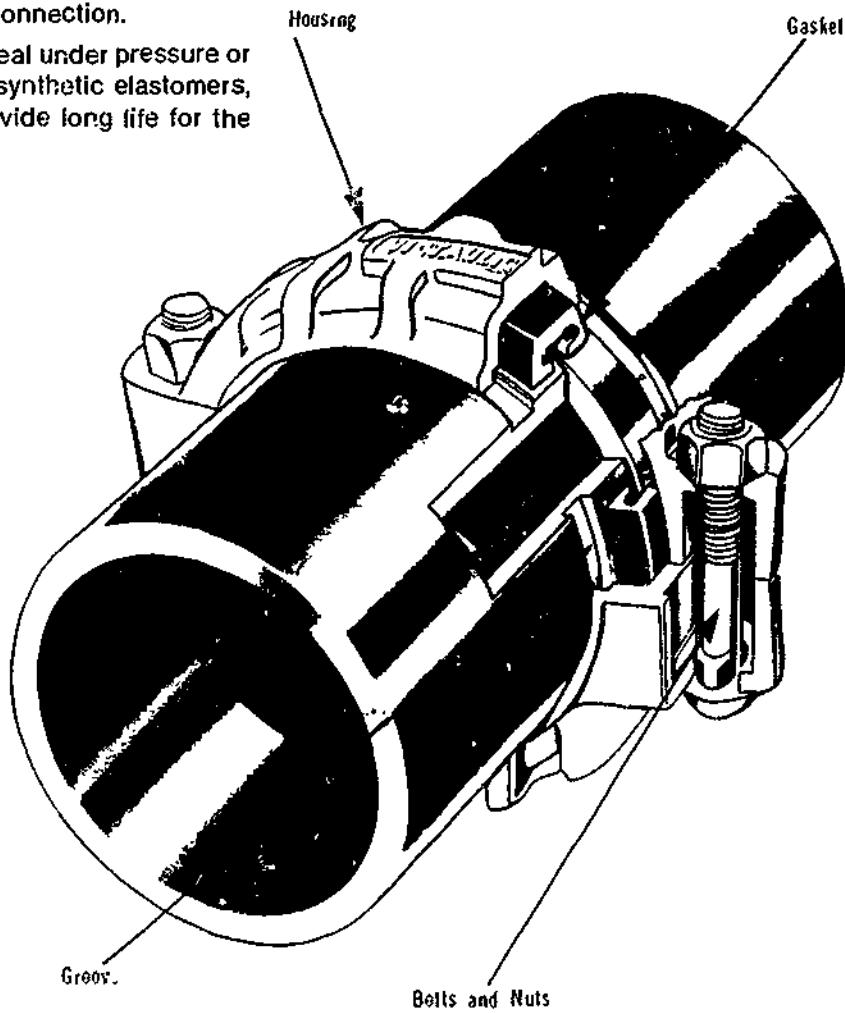

Figure 13-1. Cutaway View of Victaulic Grooved Piping Method
a) Victaulic grooved piping is a method of joining pipe for a wide variety of piping services. It offers the advantages of easy handling and assembly. The Victaulic method provides expansion, flexibility, and vibration reduction with a union at each joint. It can be applied to black or galvanized steel, stainless, aluminum, wrought iron, plastic — almost any pipe of NPS dimensions (See Figure 13-1.)
Step 1: The pipe must be free from indentations, projections, or roll marks on the exterior from the end to the groove to ensure a leak-tight seat for the gasket (Figure 13-1).